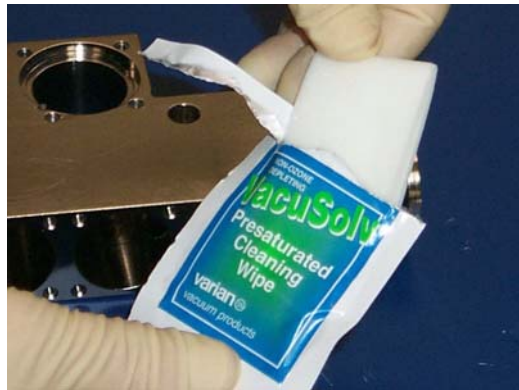

Figure 4-22 VacuSolv Cleaning Wipe
- Using the VacuSolv presaturated cleaning wipes and swabs (Figure 4-22), thoroughly wipe down all surfaces of the spectrometer tube body, magnetic pole pieces, and ground slit plate.